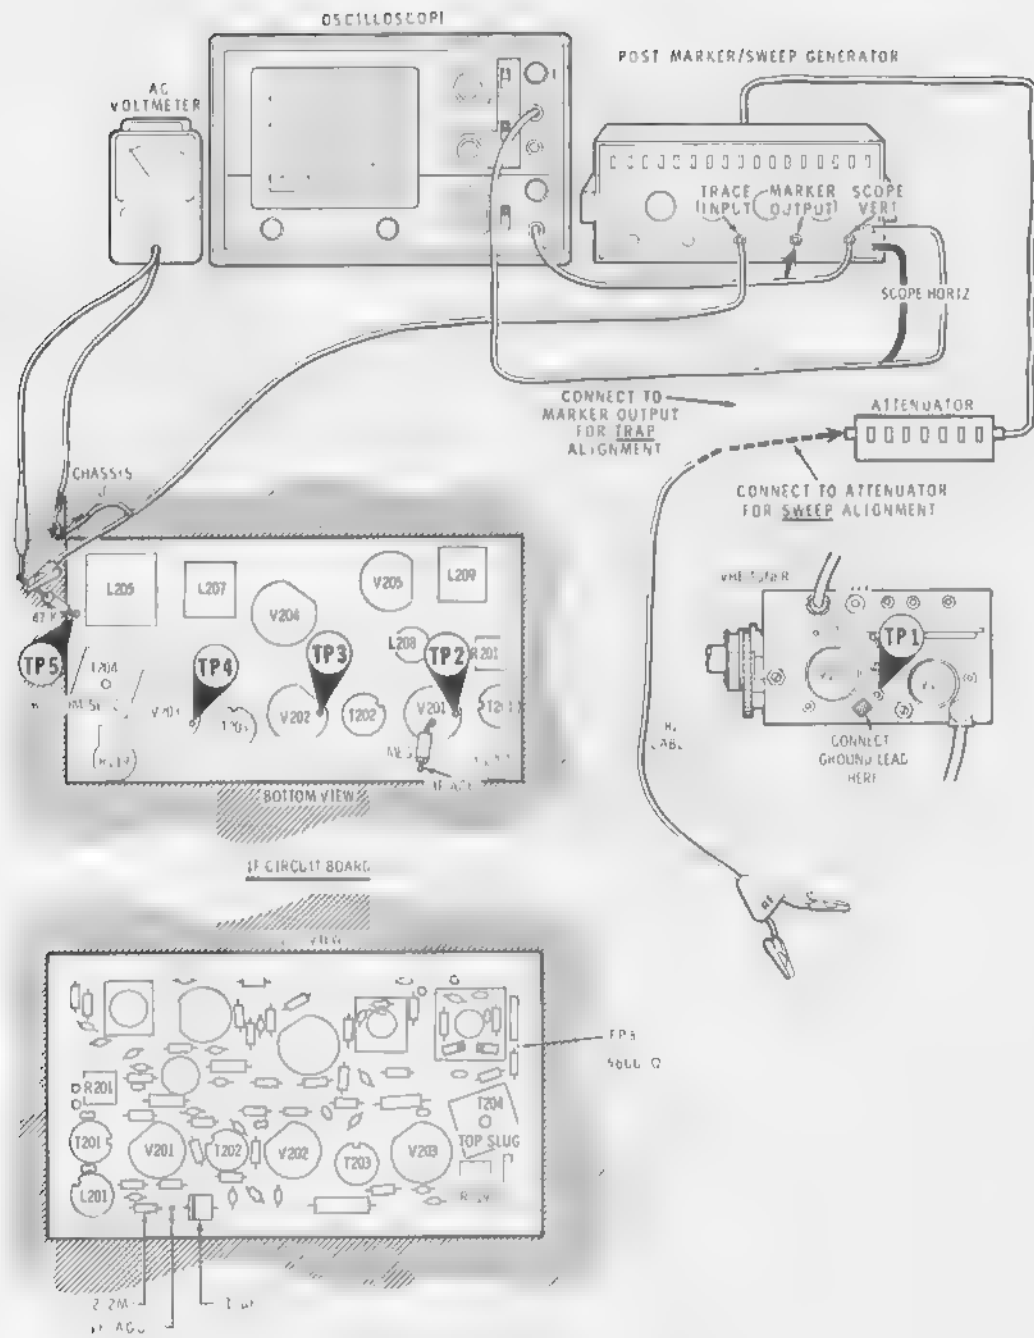

FIGURE 19
Refer to Figure 19 (fold-out from this page) for the following steps.
- () Connect the other end of the RF cable to TP1 and ground on the VHF tuner as shown in Figure 19. Then perform the Trap Alignment as indicated in the following chart. Keep the marker output as low as possible.
Refer to Figure 19 for the following steps, and to the steps in the Sweep Alignment Chart.
- () Remove the RF cable from TP8 and ground and connect it to TP5 and chassis ground. (See Figure 19 for the location of TP5.) Reduce the output of the Generator.
- () Connect a shorting wire from IF AGC to ground (see Figure 19).